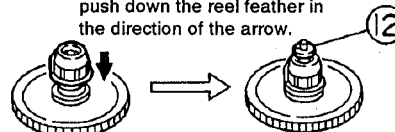

Fig. 4-17
■ **Reel disk ass'y** (See Fig. 4-17)